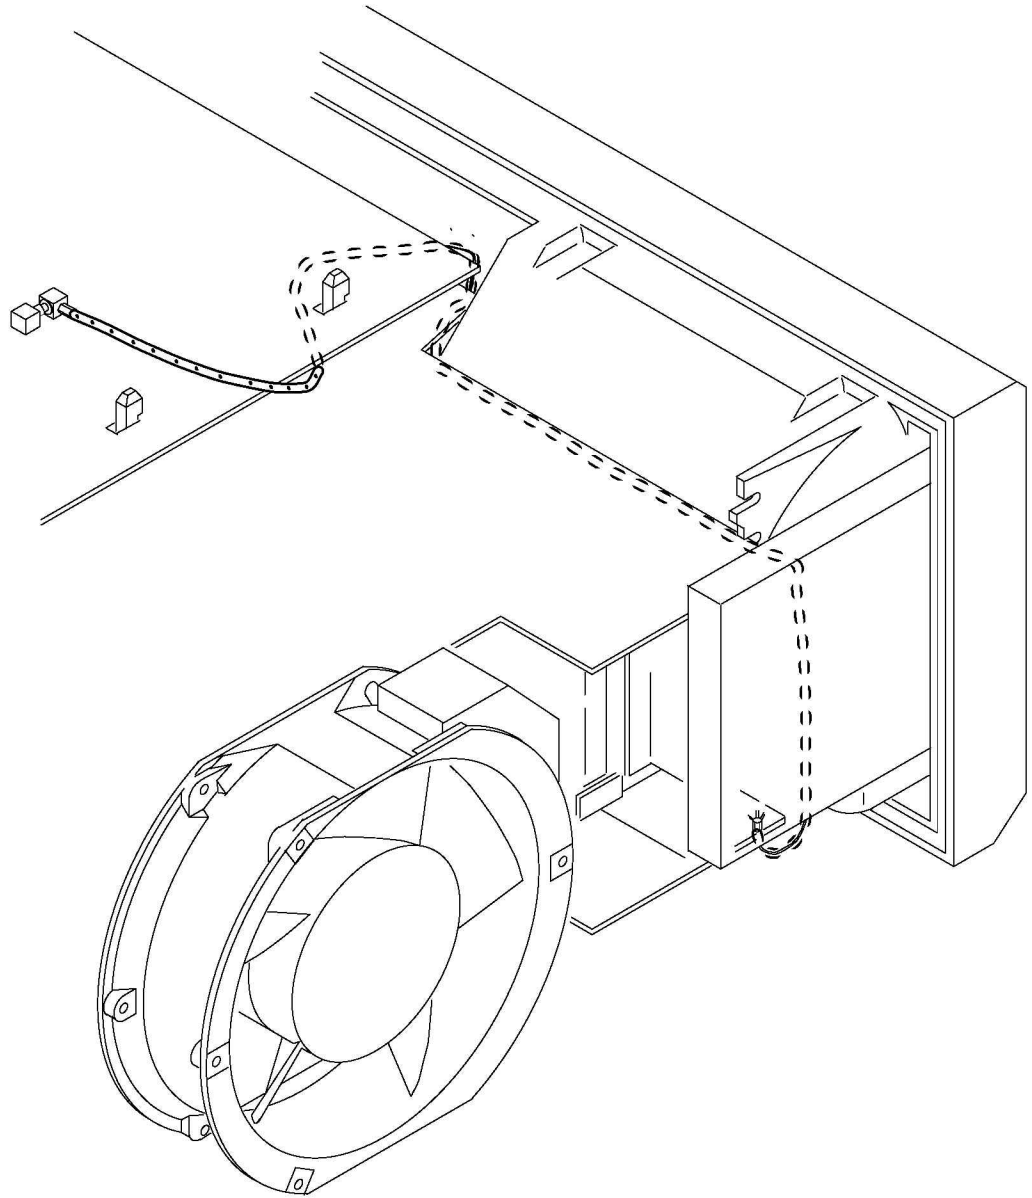

Figure 6-17: Proper Routing of the Video Cable
- d. Unplug the coax video cable that connects the video board to the acquisition boards (see Figure 6-17).